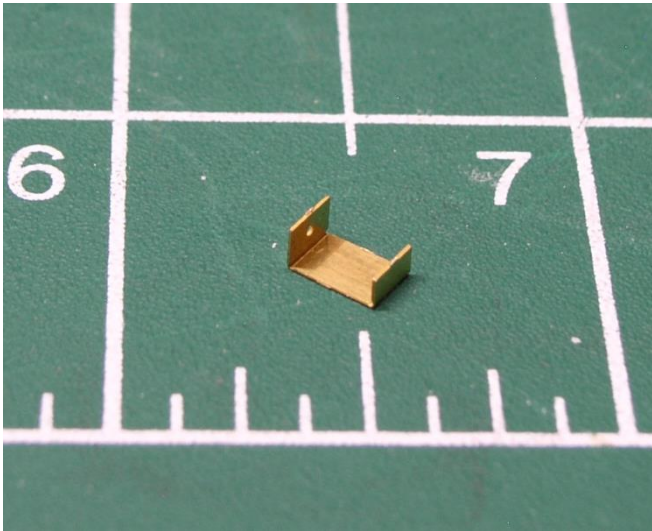

Figure U18a
20. Form the Brake Lever Bracket into a 'U' . Glue in place right beside the Bottom Cover Plate closest to the AB Valve. See Figure U18a and U18b.